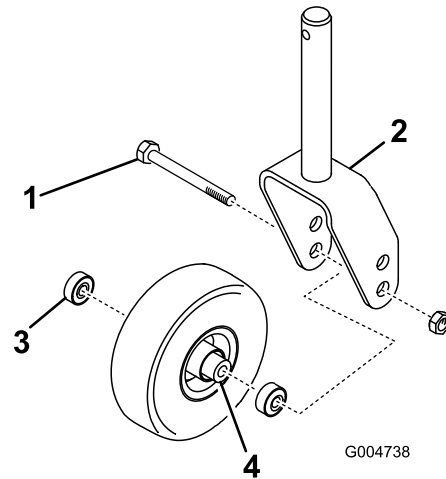

Figure 129
1. Remove the locknut from the bolt holding the caster-wheel assembly between the caster fork or the caster-pivot arm (Figure 129).
2. Grasp the caster wheel and slide the bolt out of the fork or pivot arm (Figure 129).
3. Remove the bearing from the wheel hub and allow the bearing spacer to fall out (Figure 129).
4. Remove the bearing from the opposite side of the wheel hub (Figure 129).